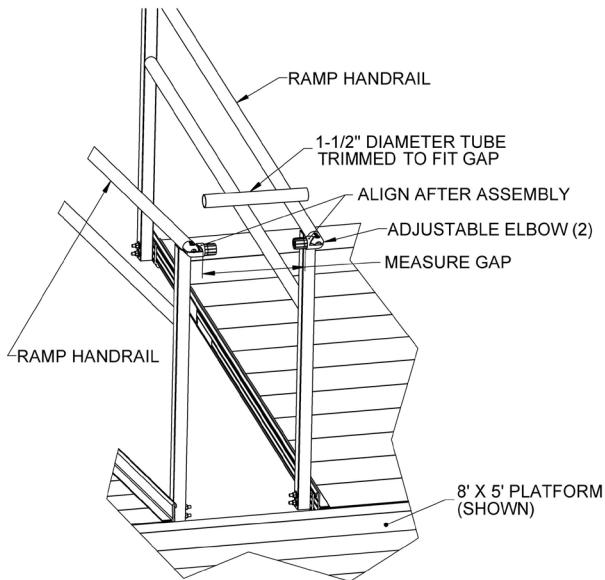

FIG. 5.21
- 5.8.2. Regardless of style, first connect the ramp handrails by installing adjustable elbows in the ramp handrails. Loosen the elbow assembly screws and position the adjustable elbows so they are aligned with the elbow on the opposite side (but do not tighten), and then measure the distance between the two larger round faces (FIG. 5.21).
- 5.8.3. Trim a 1-1/2" diameter round tube to the measured gap (FIG. 5.21).